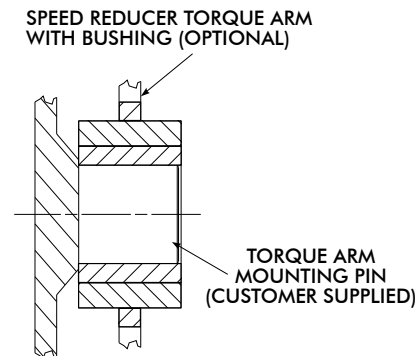

Figure 2.2a Insertion of Torque Arm Pins to Torque Arm
1. Insert torque arm mounting pins in torque arm on speed reducer; reference Figure 2.2a.